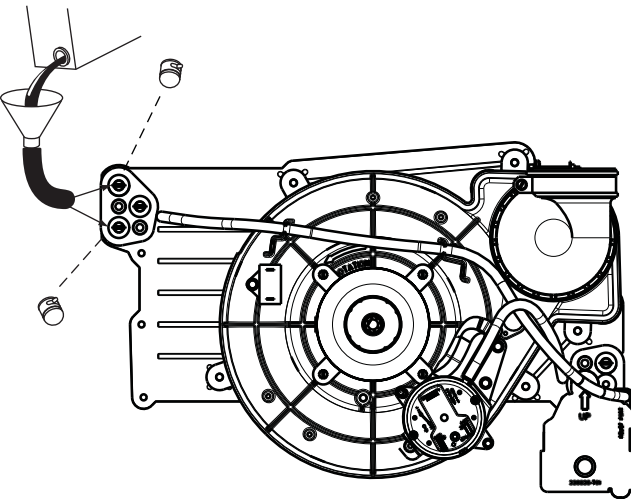

Fig. 57 - Priming Condensate Trap
4. Remove the top unused rubber plug from the port on the collector box opposite the condensate trap. See Fig 57.
9. Remove the bottom unused rubber plug from the port on the collector box opposite the condensate trap. See Fig 57